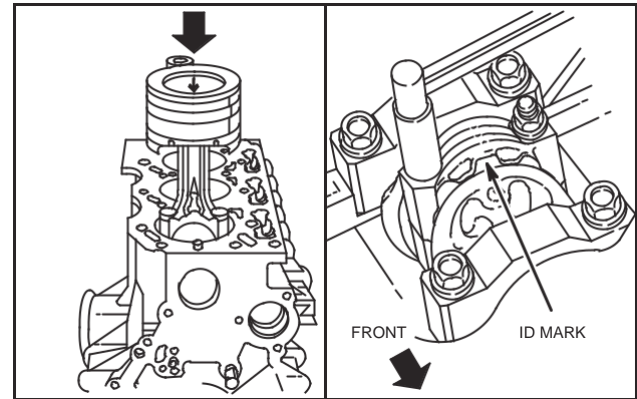

Fig. 6 – Installing Piston And Connecting Rod
2. Using ring compressor, Tool #19070, install piston and connecting rod assemblies with arrow on piston facing front, Fig. 6.